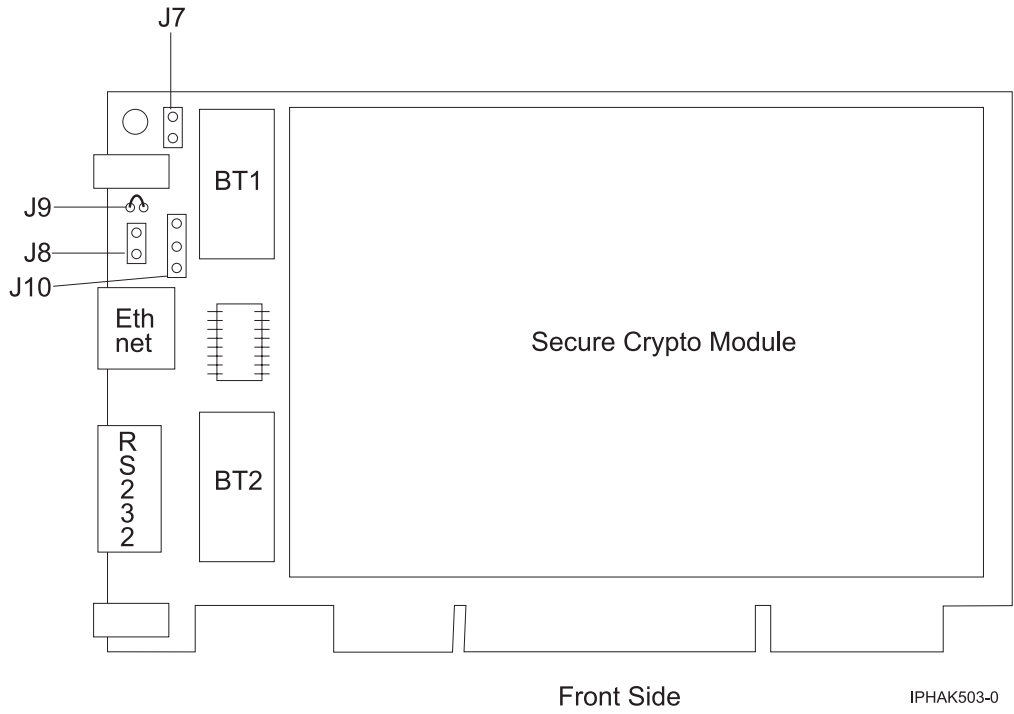

Figure 41. Front side of the adapter
6. Insert one of the new batteries into the battery tray provided with the kit. Align the + on the battery with the + on the battery tray (the end with the red wire). Connect the tray wires to the J10 connector located near the RS-232 serial port, as shown in Figure 41 on page 167. The connector is polarized to ensure a proper connection.